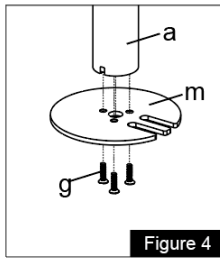

Figure 4
1. Install the Grommet Base Plate (**m**) to the Pole (**a**) using 3pcs M5x14 Bolts (**g**), and tighten using the Allen Key (**o**), see *Figure 4*.